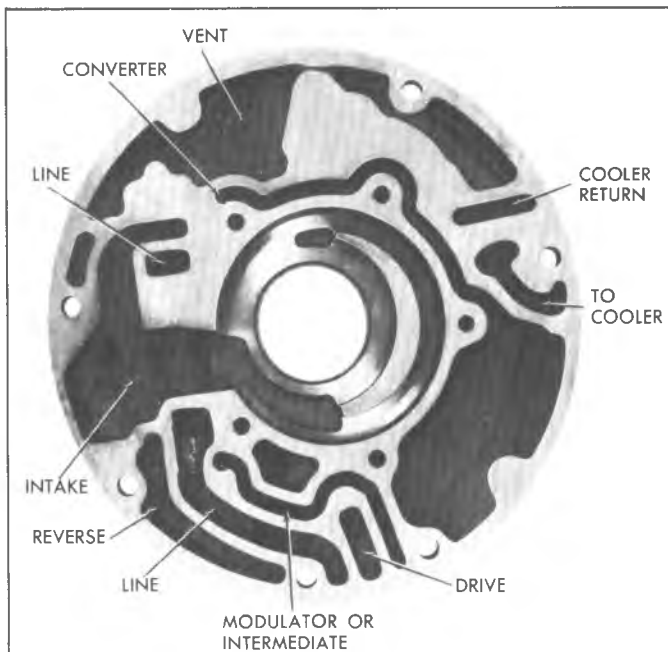

Fig. 57T--Pump Body Oil Passages
4. Check oil passages (fig. 57T).